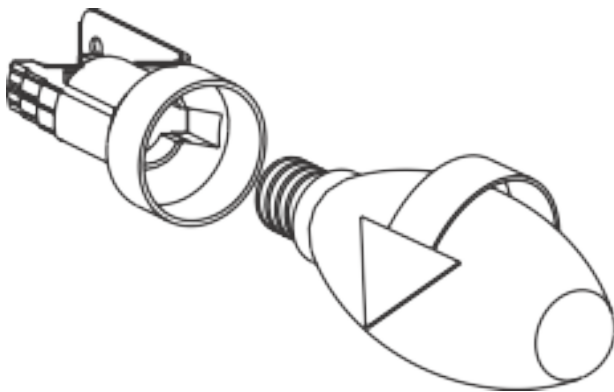

Fig.16: Lamp Replacement
2. Remove the faulty bulb and replace with a new one with the same rating. (Fig. 16)